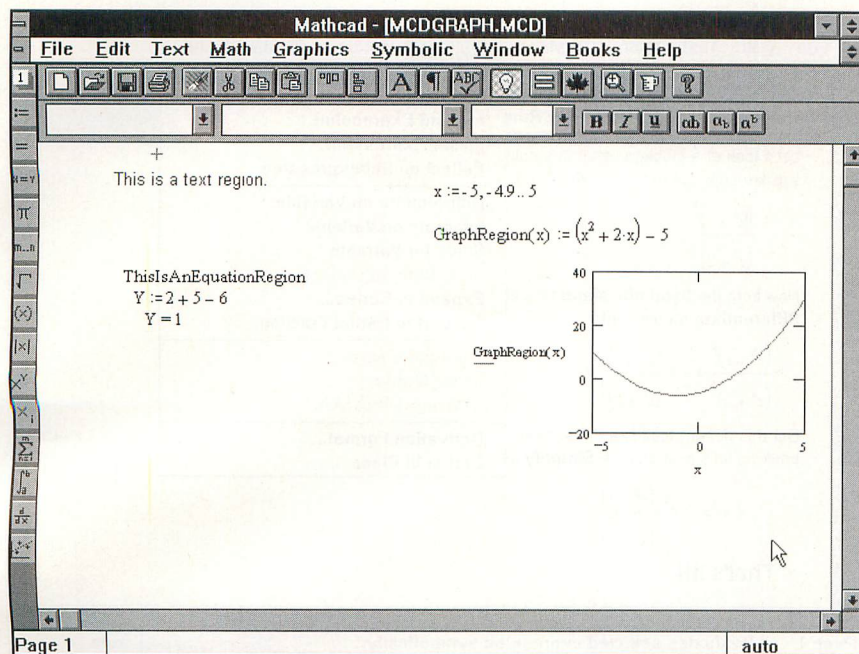
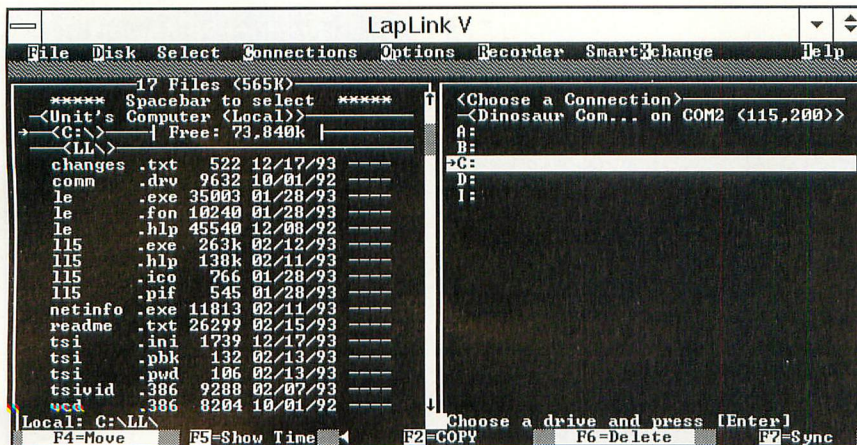

Fig. 3. This screen shot shows *Mathcad's* regions.
Fig. 2. A screen similar to this appears after you select the name of the target computer.
gions. In a printed document, the regions seem to merge. These regions are so seamless that separate regions aren't discernible to even a meticulous observer. Since *Mathcad* creates an invisible rectangle to hold each region, one normally can't see the different regions. If you wish to see the regions, choose View Regions from the Edit menu, as illustrated in Fig. 3.
(1) Specify where the file(s) will be copied or moved to by selecting a target drive and directory. You can change drives by highlighting the computer name and the hitting Enter. Either computer can send or receive files. A screen similar to that shown in Fig. 2 appears after you select the name of the target computer.
In Fig. 2, I've chosen Dinosaur Computer to be the target computer. I can now choose between its available A:, B:, C: and D: drives (I: is a Host Drive for a DoubleSpace drive C: in this computer) and directories. To choose a drive, highlight the drive letter and press Enter. In Fig. 3, you can see that I've selected drive C:.